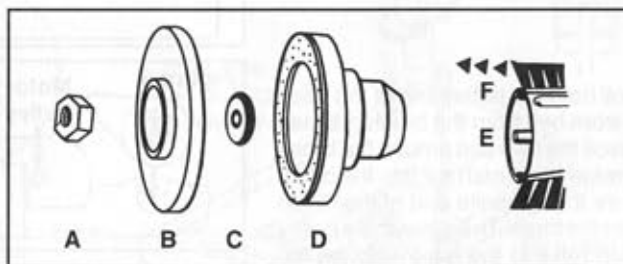

Figure 1
New brush strips are supplied in sets of four, two long and two short. To replace, first disconnect the powerhead from the electrical outlet and then remove the brush roll (see How To Replace Worn Belt). Use a 3/8 inch socket wrench to unscrew the locknut (A) from the end opposite the belt pulley. Remove the end cap (B), the washer (C) and bearing retainer (D). Push the exposed shaft (E) out the pulley end of the brush roll. Remove the pulley if it did not come off with the shaft (see Figure 1).